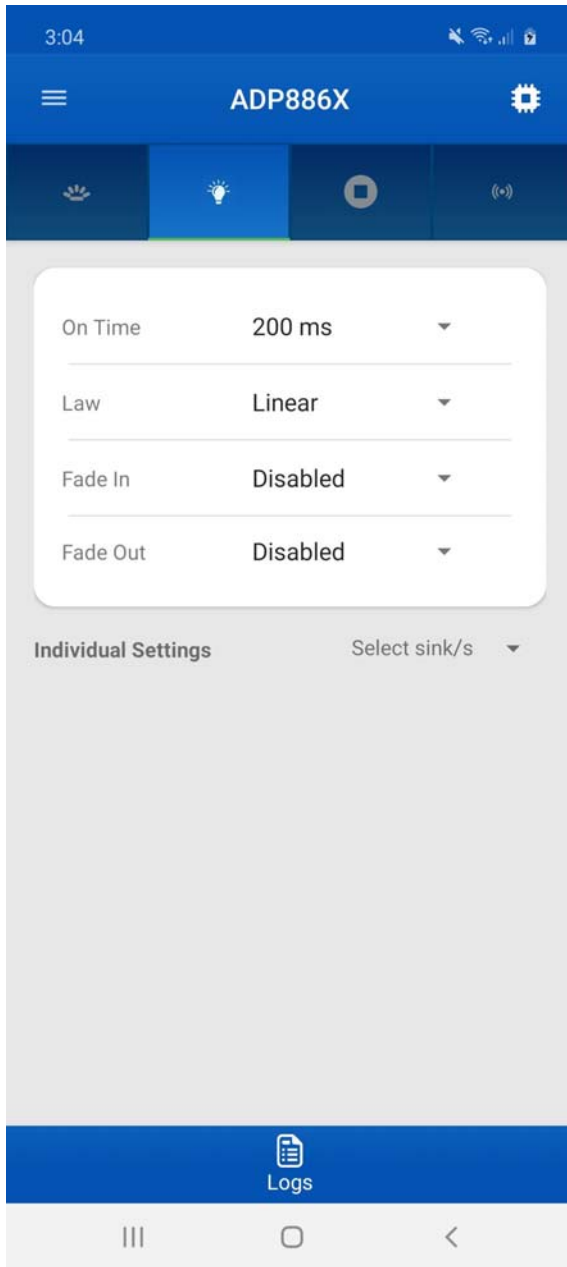

Figure 21. Sink Tab for the Android App
- 7. In the **Sink** main tab, users can select sink independently and can configure sink **Law**, **Current**, **On Time**, **Off Time**, **Fade In**, and **Fade Out** (see Figure 21).